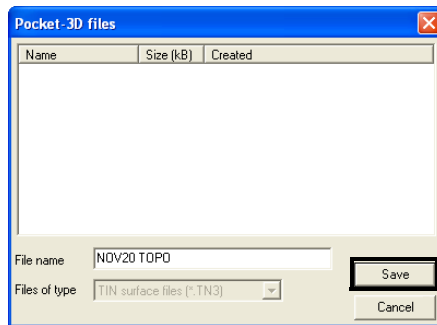

Figure 5-25. Save TIN Surface File to Pocket-3D Controller
3. On the *Pocket-3D files* dialog box, do one of the following and click **Save** (Figure 5-25):